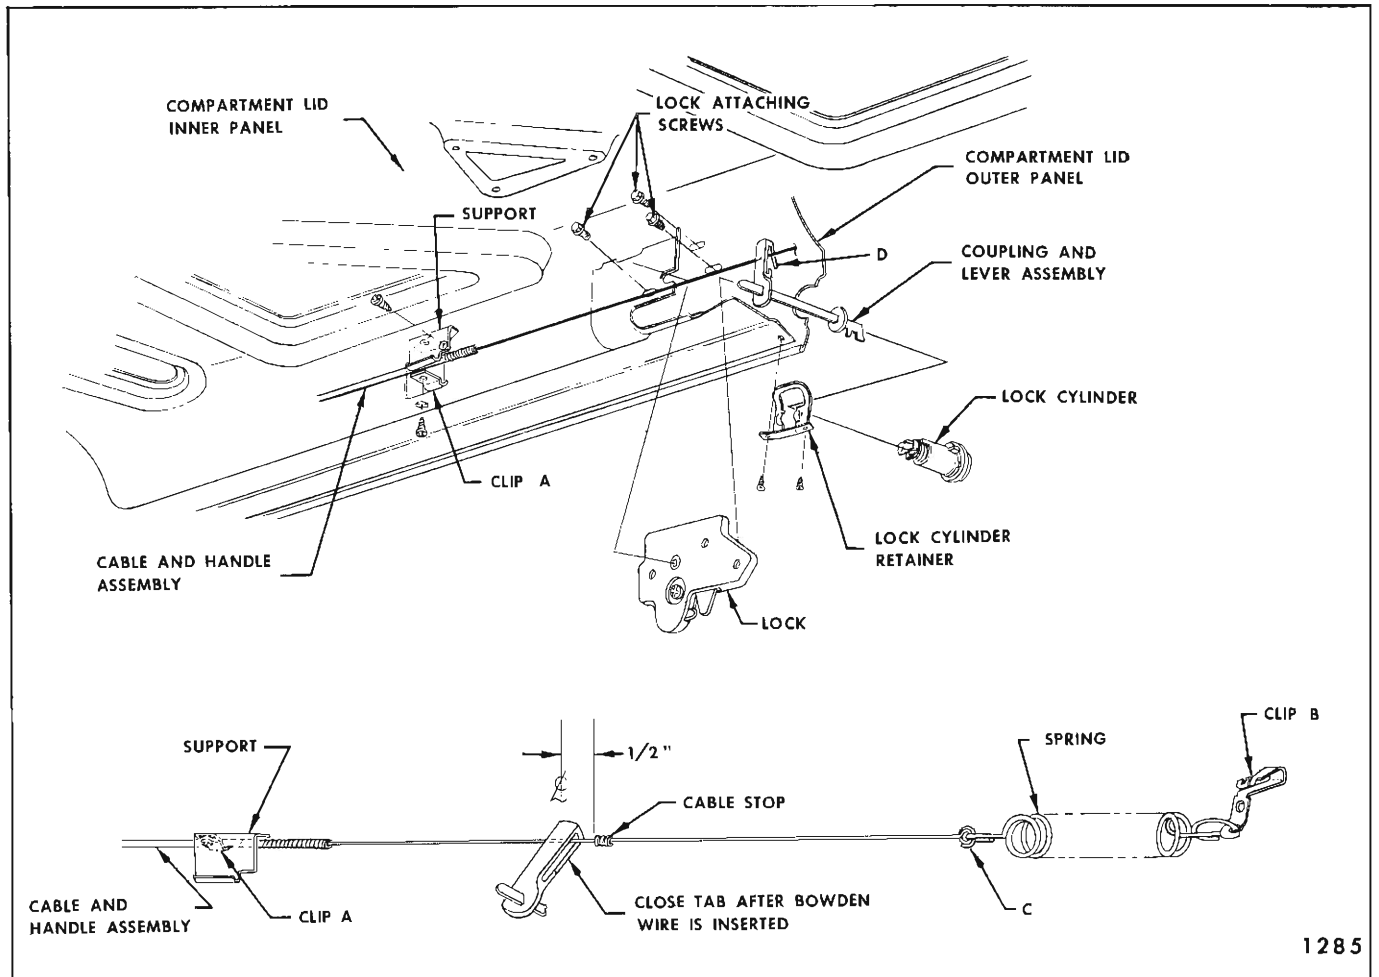

Fig. 2F13—Rear Compartment Lid Lock Manual Release Unit
11. To install, reverse removal procedure. To adjust cable, position stop on cable 1/2 inch left of body centerline (coupling and lever assembly) as shown in Figure 2F13.